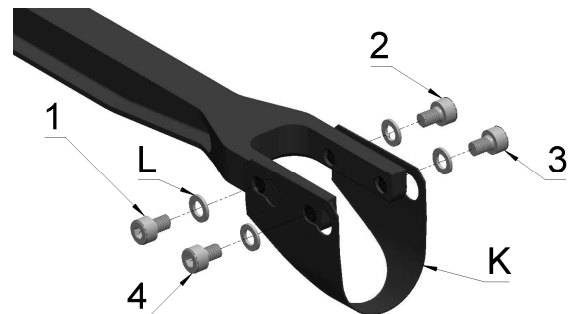

Fig. 6 Blade fitting, Device EFA-RZ100
1. Secure the blade (item K, fig. 6) with washer (item L, fig. 6) and screw (item 1, fig. 6).
2. Secure the washer (item L, fig. 6) with screw (item 2, fig. 6).
3. Secure the washer (item L, fig. 6) with screw (item 3, fig. 6).
4. Secure the washer (item L, fig. 6) with screw (item 4, fig. 6).